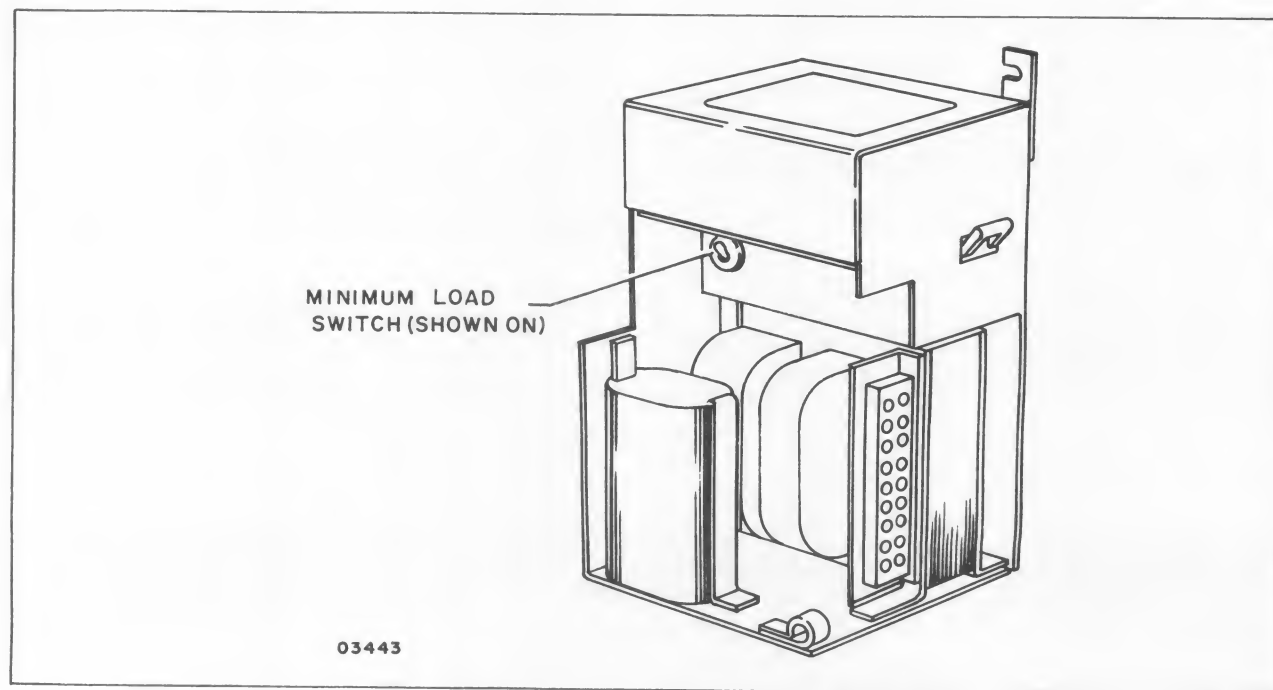

Figure 3-4. Minimum Load Switch, Series/1 Model 4952-A
- b. Remove the rear cover of the Series/1 power supply and lower the hinged transformer box to view the minimum load switch (see figure 3-4).